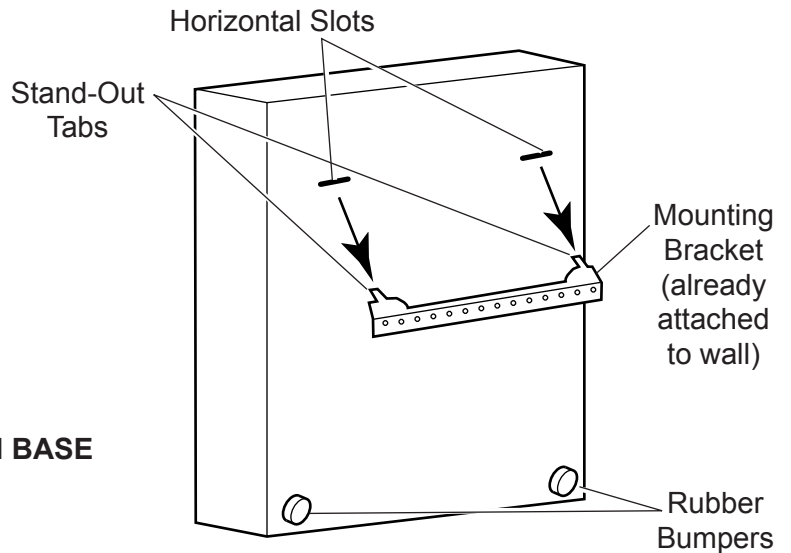

Figure 10 - Mounting Heater Onto Mounting Bracket
2. Attach two (2) rubber bumpers to back of heater as shown in *Figure 10*.
3. Locate two (2) horizontal slots on back panel of heater.